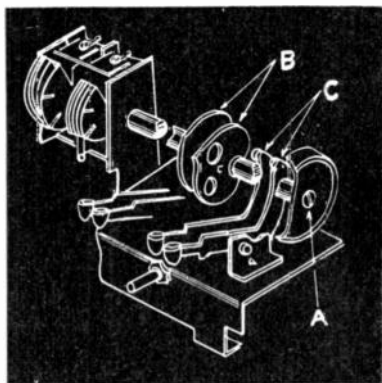

Fig. 1—Cam and lever mechanical system. Loosen cams, press button, tune in station, tighten cam lock.
This mechanical type of mechanism is usually found on the smaller table model sets with four buttons. It is characterized by a downward lever type action of the button. The cut-away view Fig. 1 shows the important parts of the tuner. The roller on a push-button lever (C) is pressed against its respective heart-shaped cam